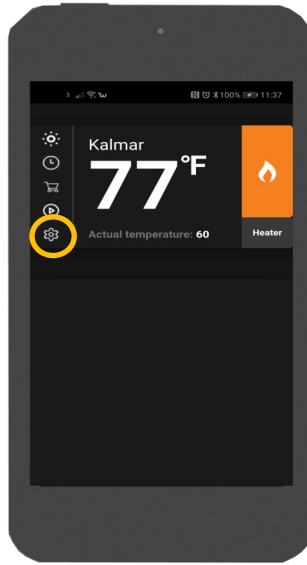
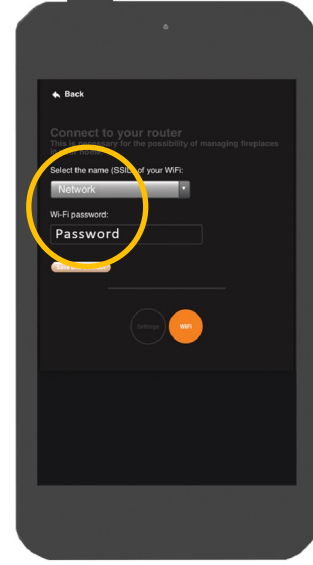

Fig 2.
Fig 3.
4. Open your e-smart app, and in the settings panel (Fig 2.) establish your connection by selecting your home wi-fi. This will pair the fire with your router. Fig 3.